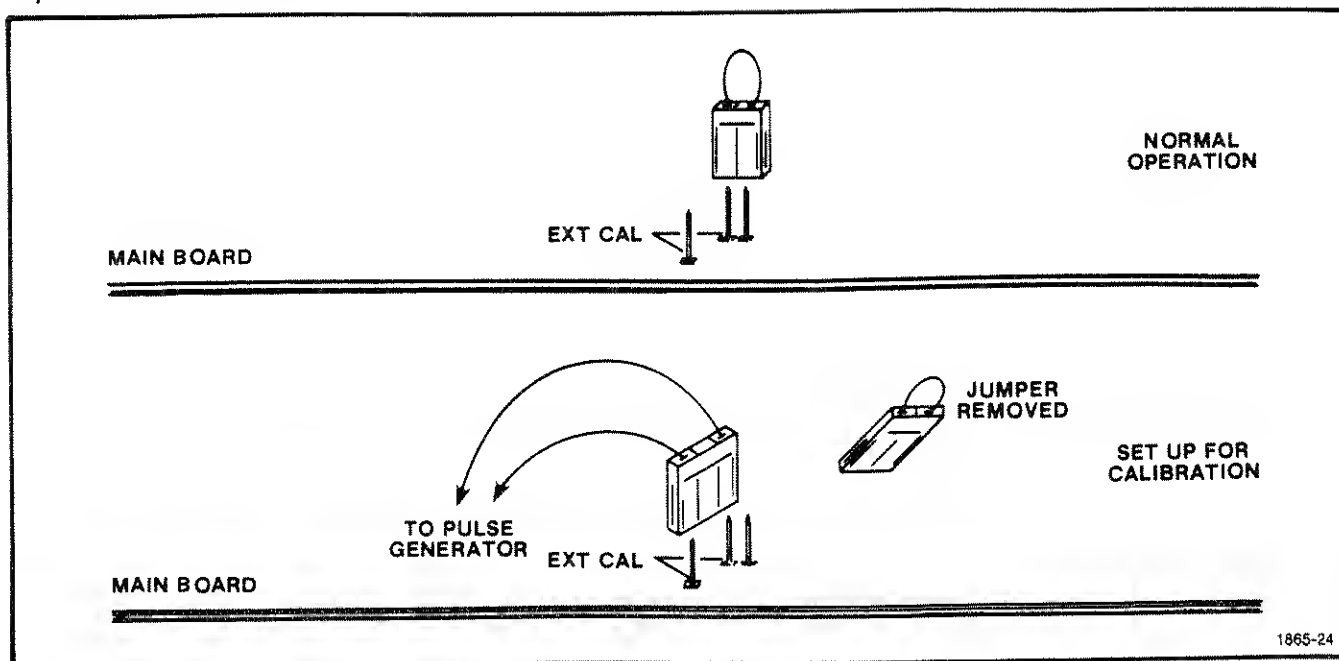

Fig. 4-8. External Calibration connection.
d. Connect the $-$ OUTPUT from the PG 501 to the EXT CAL terminals on the 1503 Main Board (see Fig. 4-8).